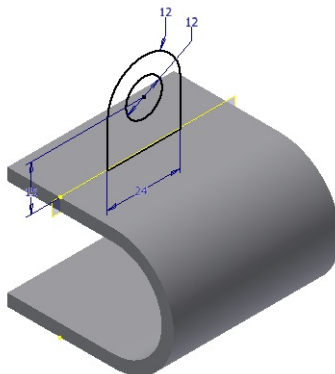

Figure 7-54 Sketch for the third join feature
2. Create a circle inside the sketch so that when you extrude the sketch, a hole is also created, see Figure 7-54.